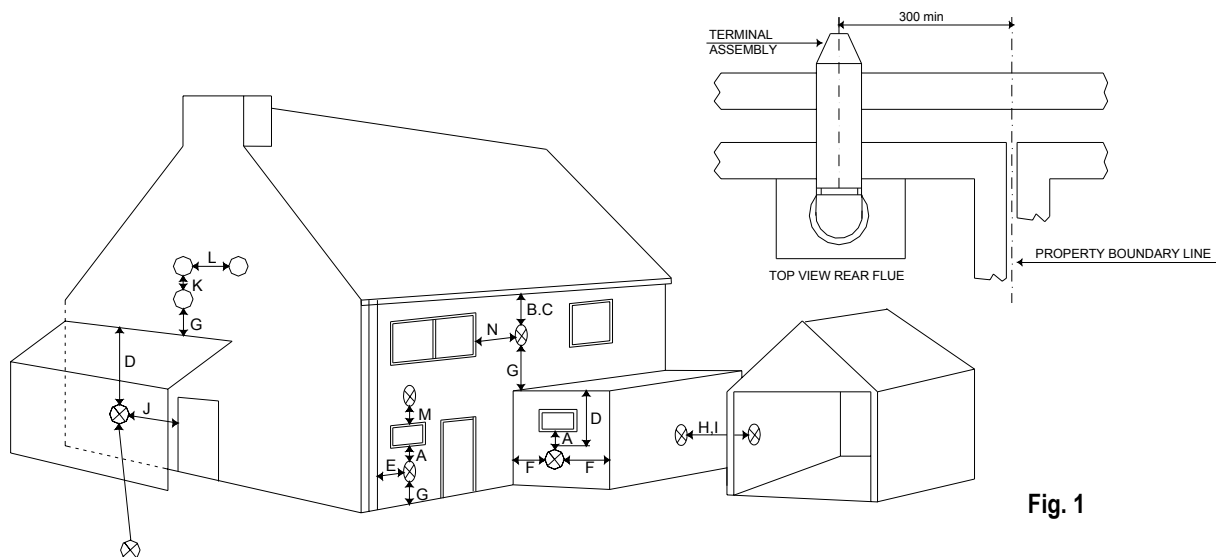

Fig. 1
**IMPORTANT REQUIREMENT:** The correct dimensional relationship between the terminal and any obstruction, openable window or ventilator as shown in Fig 1 It is **ESSENTIAL TO ENSURE**, in practice, that products of combustion discharging from the terminal cannot re-enter the building, or any other adjacent building, through ventilators, windows, doors, other sources of natural air infiltration, or forced ventilation/air conditioning systems. If this should occur, the appliance **MUST BE TURNED OFF IMMEDIATELY** and the local gas region consulted.